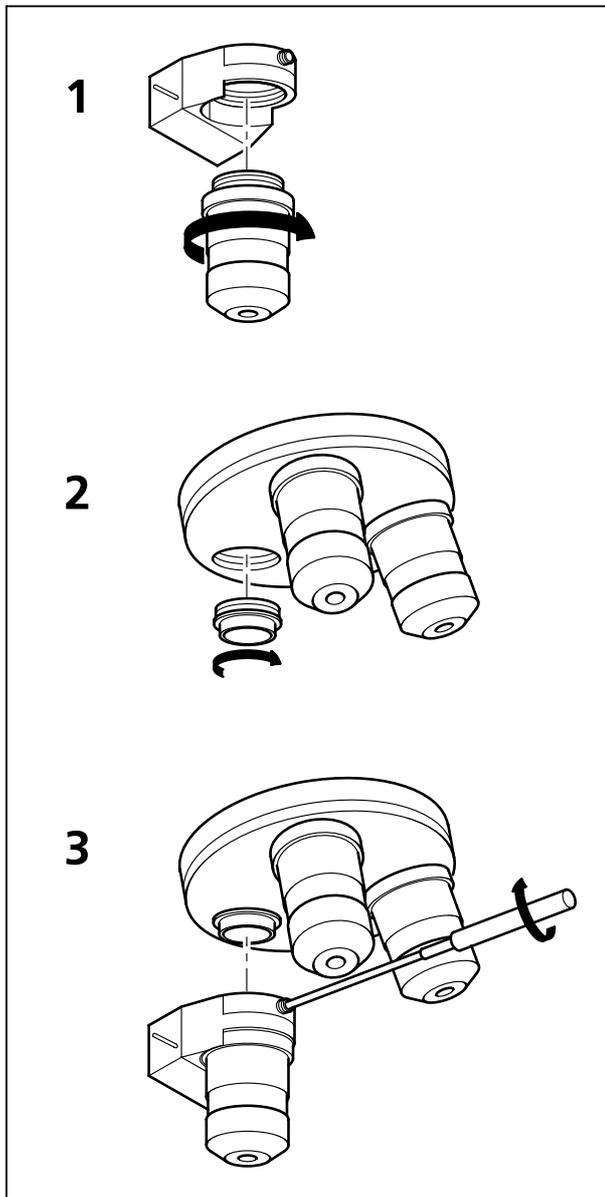

Fig. 9-5 Installation of the Piezo Objective Focusing Device
- Screw in your microscope objective into Piezo Objective Focusing Device (see Fig. 9-5/1).
- Screw the thread-ring into your microscope (see Fig. 9-5/2).
- Easy clamp the Piezo Objective Focusing Device on the thread-ring (see Fig. 9-5/3).